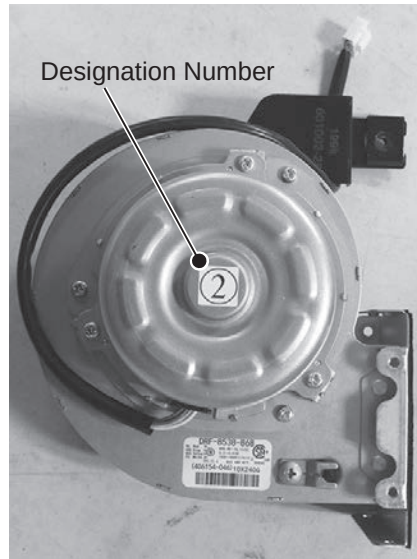

Figure 52 - Fan designation number
IMPORTANT! Note the fan designation number provided on the label located in the center of the fan assembly. This fan designation number will be used later to properly configure the water heater. See Figure 52.
- 18** Configure water heater setting **C04** to match the fan designation number on the fan assembly recorded in **Step 3**. See Figure 52 as reference.